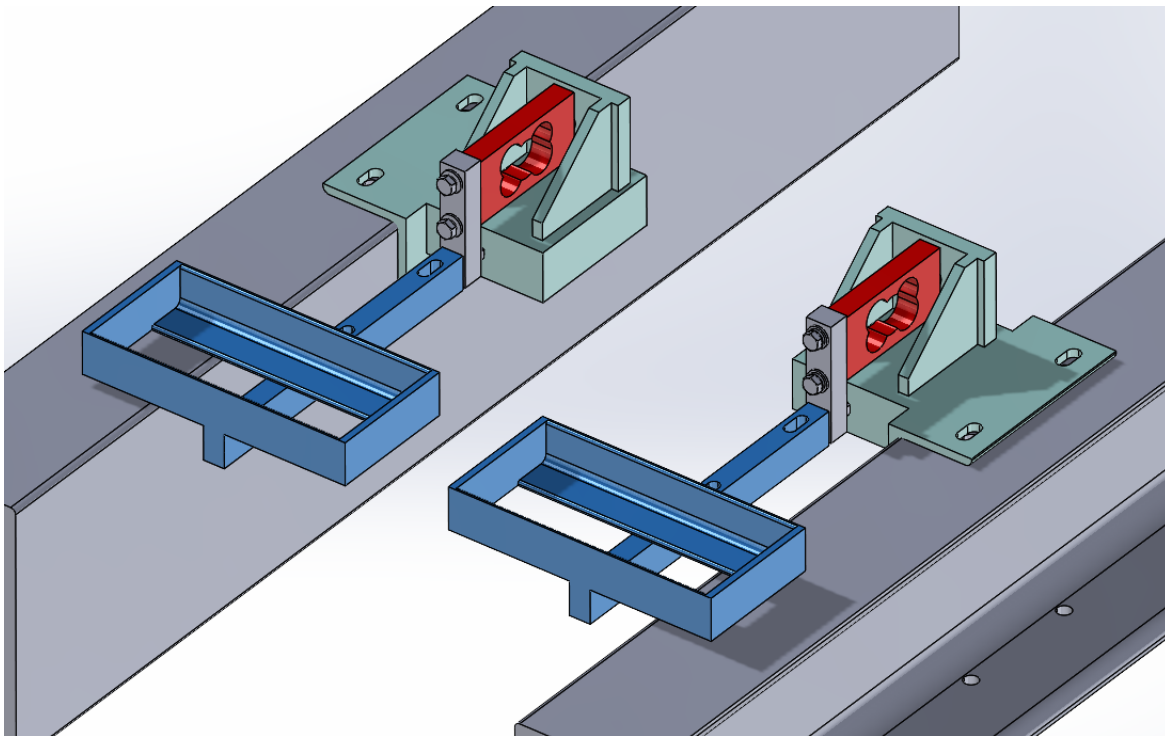

Figure 3: Calibration Trays Installed
3. Align the brackets with the pre-drilled holes and install them in the same orientation as shown in Figure 3.